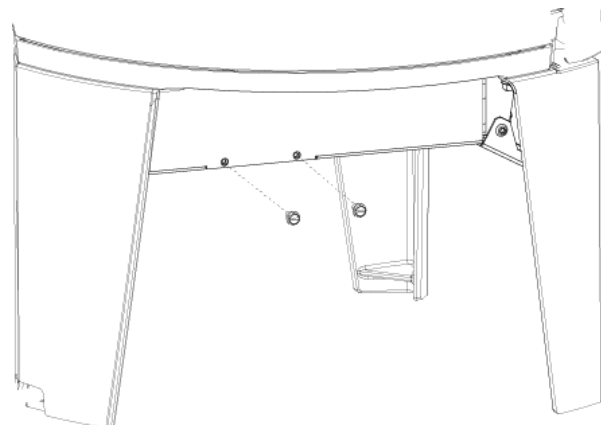

Figure 7.6. Remove IFC module bracket screws.
- Remove the #8 sheet metal screws from each side of the control cabinet as in fig. 7.6. Carefully extend the wire harnesses to allow the IFC module to hang from the opening in the cabinet floor.